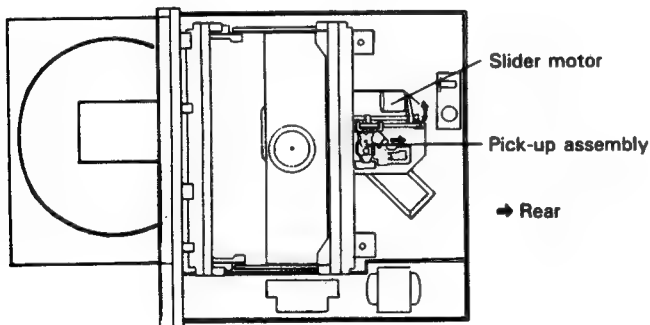

Fig.2
3. Shift the pick-up assembly to the position shown in Fig.2.